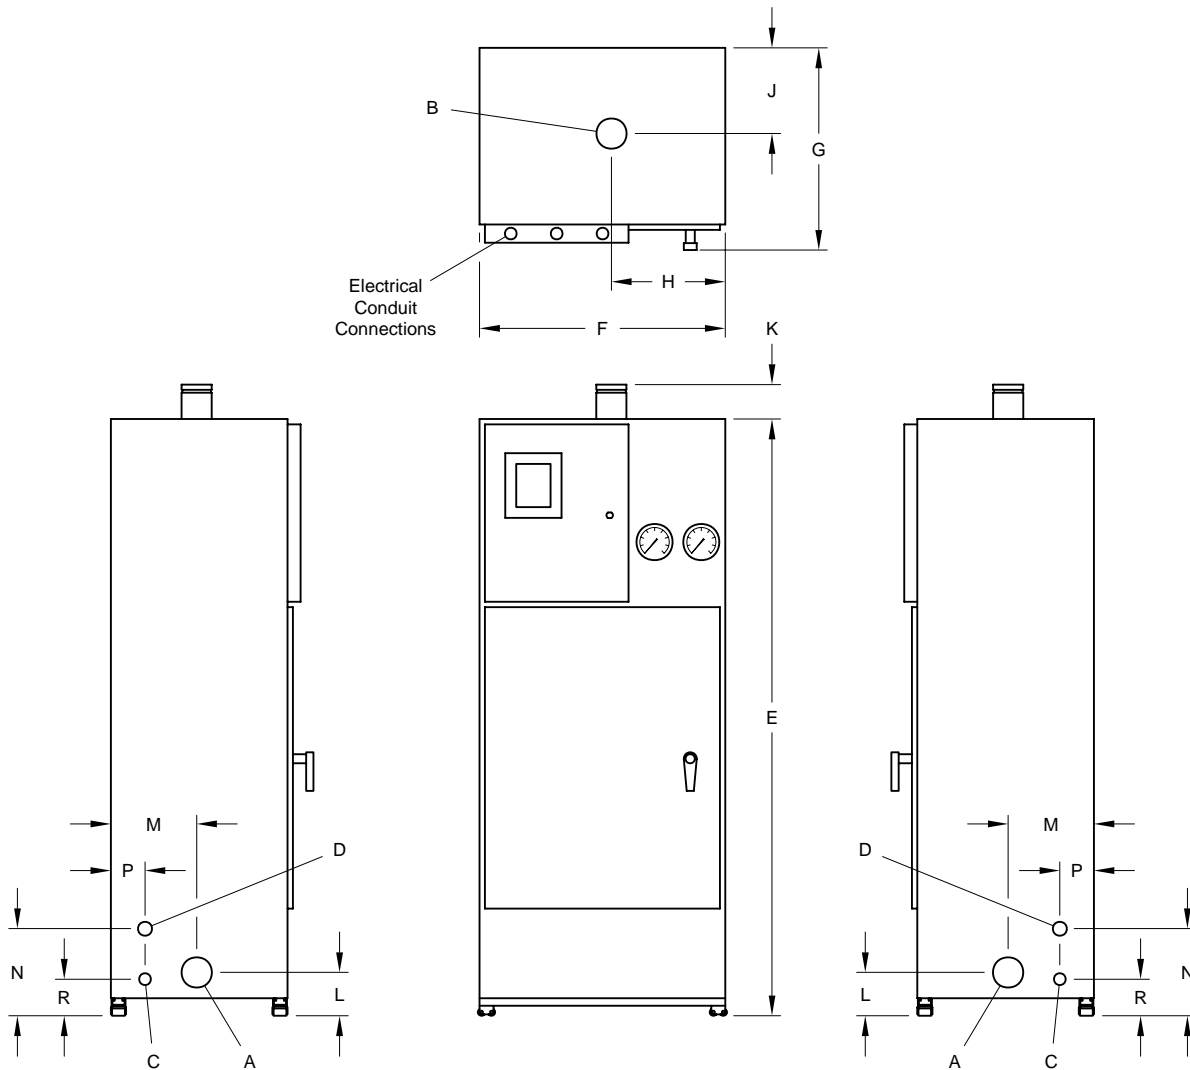
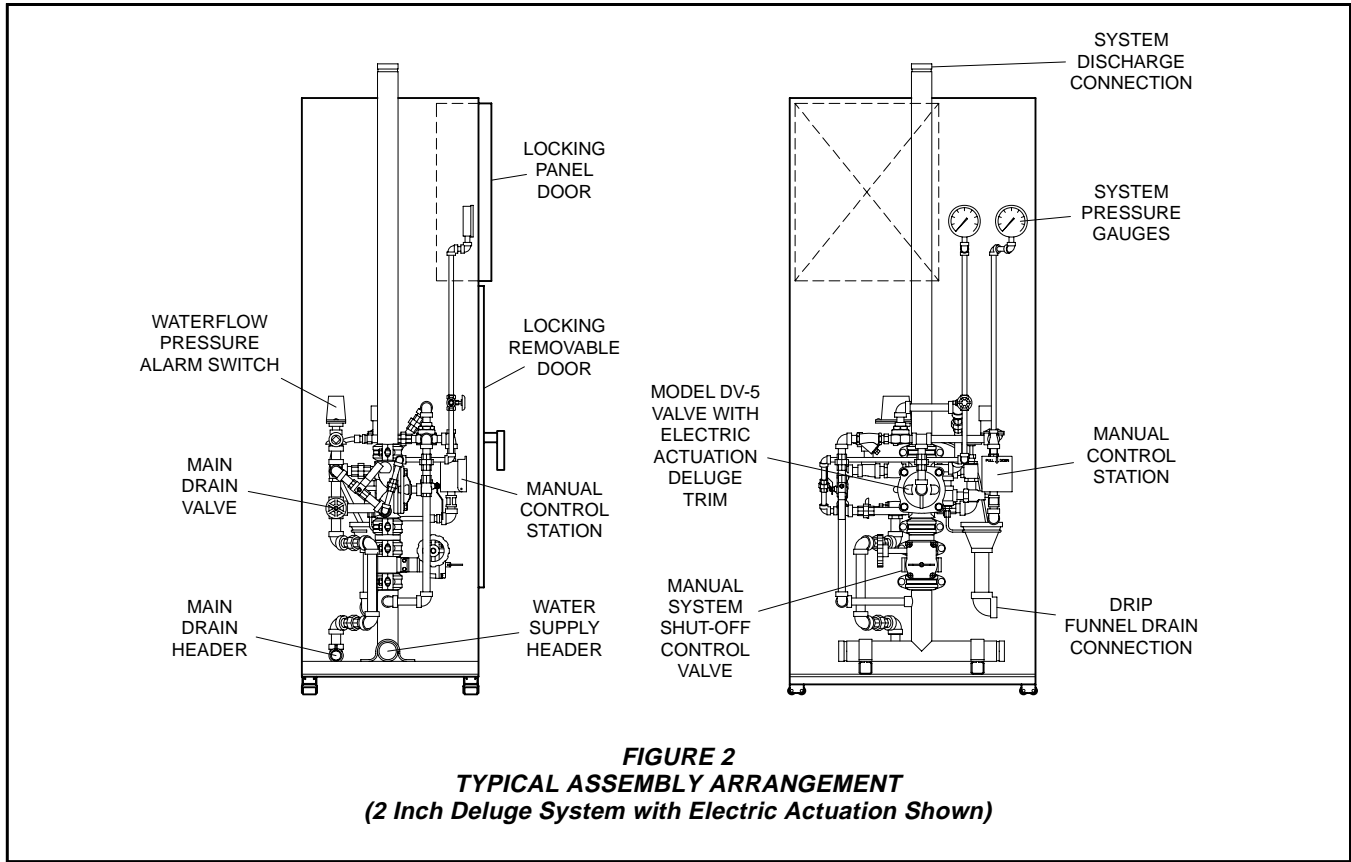

FIGURE 1
FIGURE 2
Figure 1 provides dimensional information for Red-E Cabinets, and Figure 2 illustrates the typical assembly arrangement.
- Installation of a suitably sized water supply to the water supply header Port A, Fig. 1).
- Installation of system piping (Port B, Fig. 1) including open nozzles and/or sprinklers from the Red-E cabinet outlet.
- Installation of drains from main drain header (Port C, Fig. 1) and drip funnel header (Port D, Fig. 1).